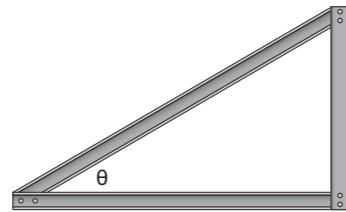

Figure 3.27
- Using trigonometry, determine the angle θ in Figure 3.27 if the adjacent side is 15 metres and the hypotenuse is 22 metres.